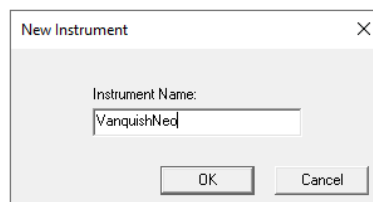

Figure 20: New instrument
2. Open the Chromeleon Instrument Configuration Manager and add a new Instrument. For Thermo Xcalibur/SII for Xcalibur installations, open Xcalibur Instrument Configuration, select SII for Xcalibur and configure device, press Configure / Configure Device and add a new Instrument (Figure 20).